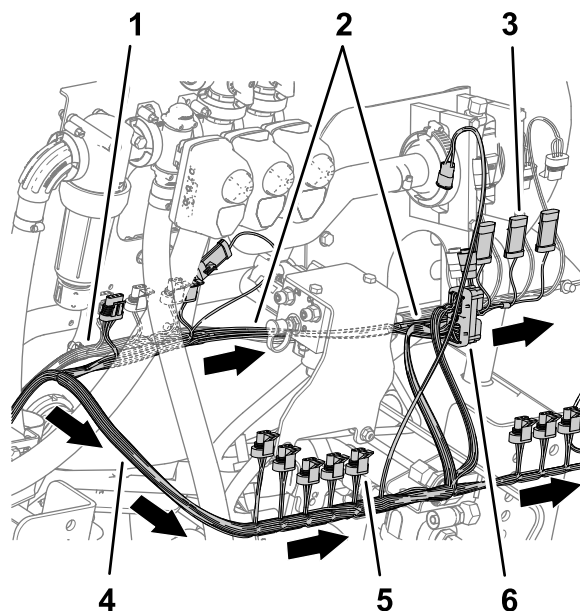

Figure 83
8. Route the 102 cm (40 inch) wire-harness branch rearward of the lift manifold, and to the right as shown in Figure 83.
7. At the back of the machine, route the 89 cm (35 inch) wire-harness branch forward of the lift manifold, and to the right of the flow meter as shown in Figure 83.